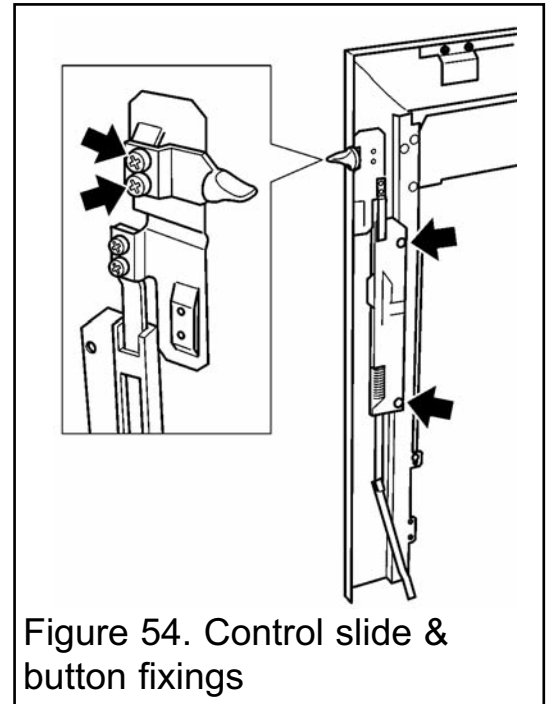

Figure 54. Control slide & button fixings
2. Detach the slide unit by removing two screws securing the plastic slide mechanism to the rear of the fascia – See figure 54.
3. Detach the slide button by removing two screws (See figure 54).